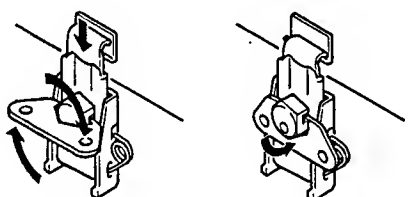

FIGURE 6: LOCKING THE LATCH
7) Engage the latch and turn key fully clockwise (to the right). Flip the key down to lock (see Figure 6).